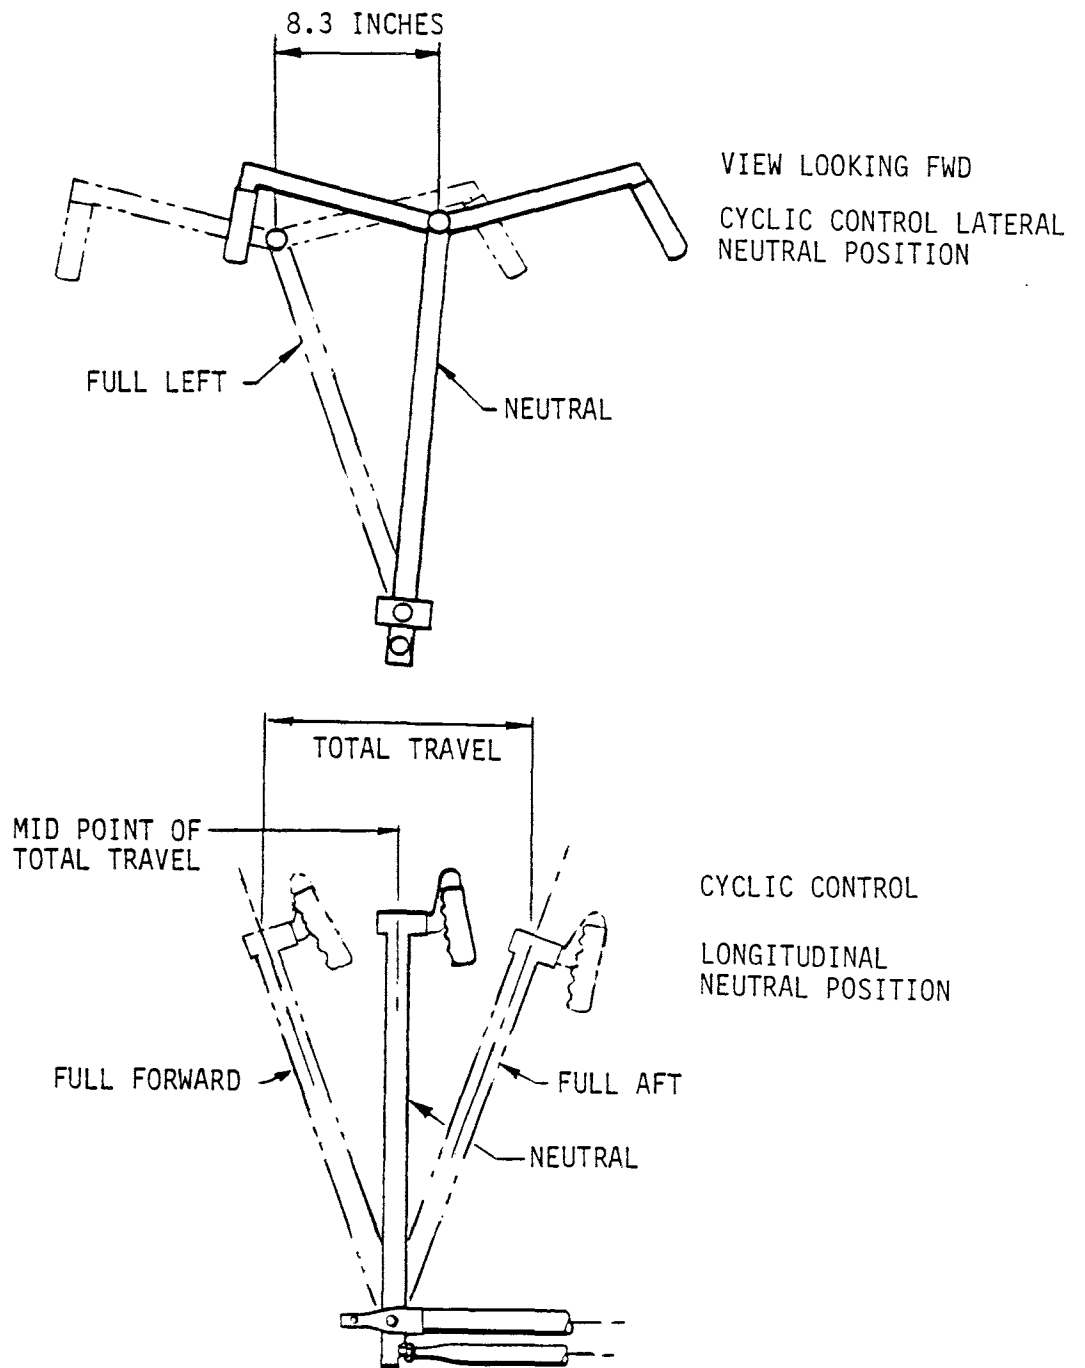

FIGURE 10-1 CYCLIC CONTROL STICK NEUTRAL POSITION
- d) Place the cyclic control in the neutral position. This point is 8.3 inches to the right of full left travel and at the mid-point of the total fore and aft travel. (See Figure 10-1). Place the collective control full down.
1. Refer to Figure 10-1. Place collective control full down. Place cyclic control in neutral position laterally and hold against forward stop.
4. Refer to Figure 10-1. Place cyclic control in neutral position laterally and hold against aft stop.
- 6. Refer to Figure 10-1. Place cyclic control in neutral position longitudinally (mid-travel) and hold cyclic against left stop.
9. Refer to Figure 10-1. Place cyclic control in neutral position longitudinally (mid travel) and hold against right stop.
2. Refer to Figure 10-1. Place cyclic control in neutral position or install MT376-1 rigging blocks. Place collective control full down. Apply cyclic and collective friction.